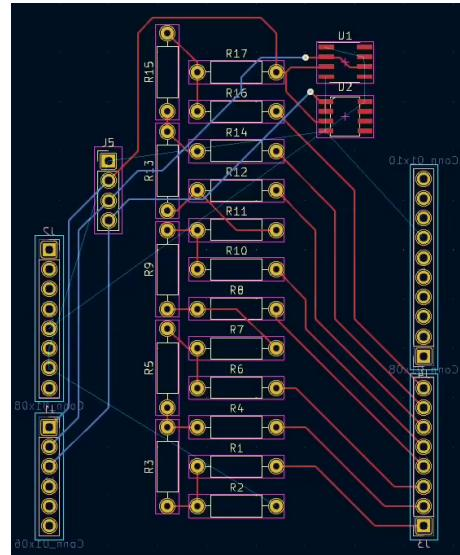

Figure 54: Routing the core components of the PCB
6. Connect the components that are not the power nets (GND and +5V). Pressing X will allow you to interactively route, pressing “-” and “+” will automatically place a via to get from the top layer to the bottom without interrupting routing. You can see an example of this in Figure 54. You should be able to route everything on the top layer but it may be a bit cluttered, where as if you route some of the routes on the bottom, you can make a much cleaner PCB.